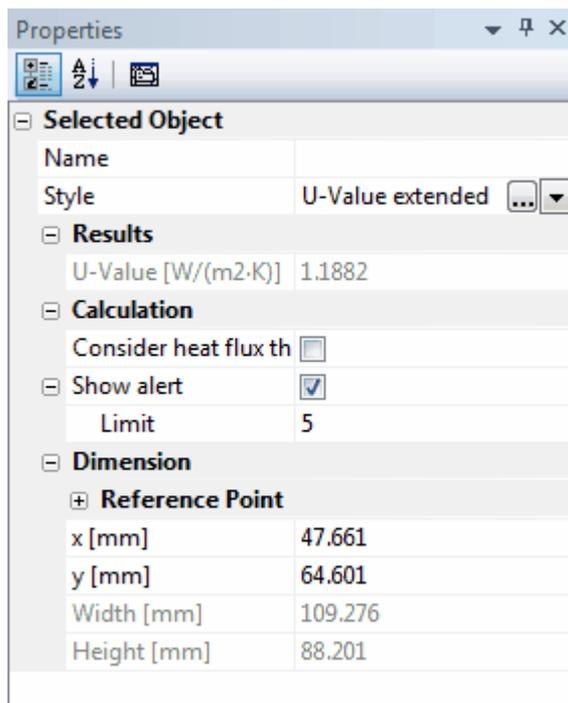

Figure 4: Properties flyout of a equivalent U-value object
- In case the heat flow through the section surface exceeds a critical, relatively high value, then an appropriate warning will be shown. You can adjust these borders in the Properties flyout (cf. figure 4)